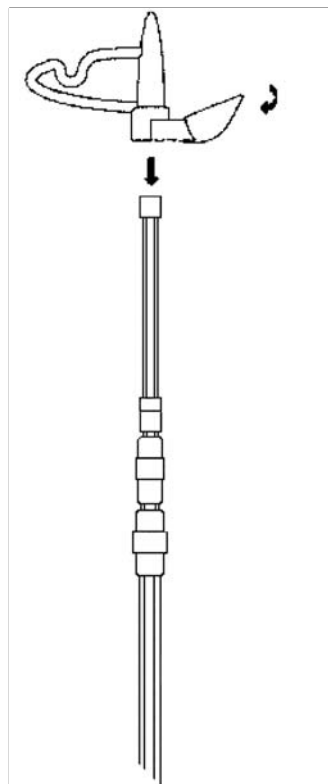

Figure 4
2. Place the *Pole Top* on top of the *Pole Extension* as shown in Figure 4, and rotate it clockwise until snug.